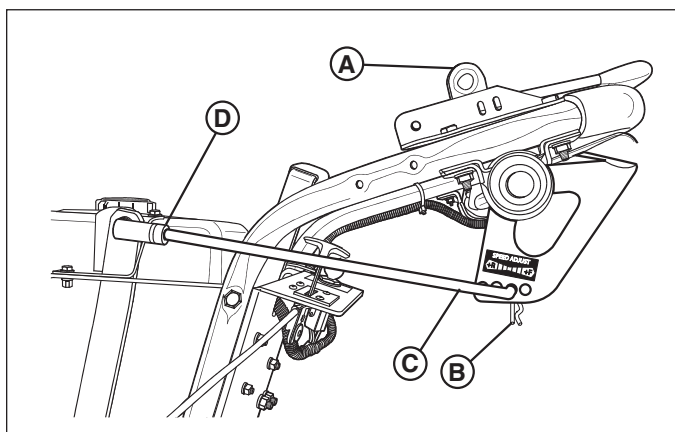

Figure 16b - Travel Controls Adjustment
The Travel Control engagement bars (A, Figure 16b) can be adjusted to provide the optimum ratio of forward/reverse travel speed.
1. Remove the hair pin clip (B, Figure 16b).
2. Relocate the L-shaped end of the control rod (C) into one of the four speed adjustment holes in the engagement bar side plate.